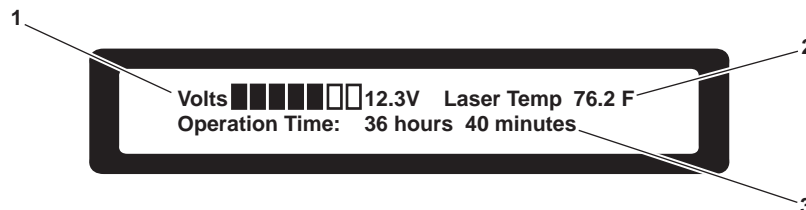

Figure 17. Voltmeter, Laser Temperature and Operation Time Screen
- Check the voltmeter, laser temperature, and operation time (figure 17) by pressing the up arrow button (figure 2, item 5) on the LMI receiver panel (figure 2, item 2) twice while in the primary operating display screen (figure 10).
- The voltmeter, laser temperature, and operation time display (figure 17) will indicate operating voltage (figure 17, item 1) numerically and by bar graph. The display will also give numeric readout of laser operating temperature (figure 17, item 2) and operation time (figure 17, item 3).